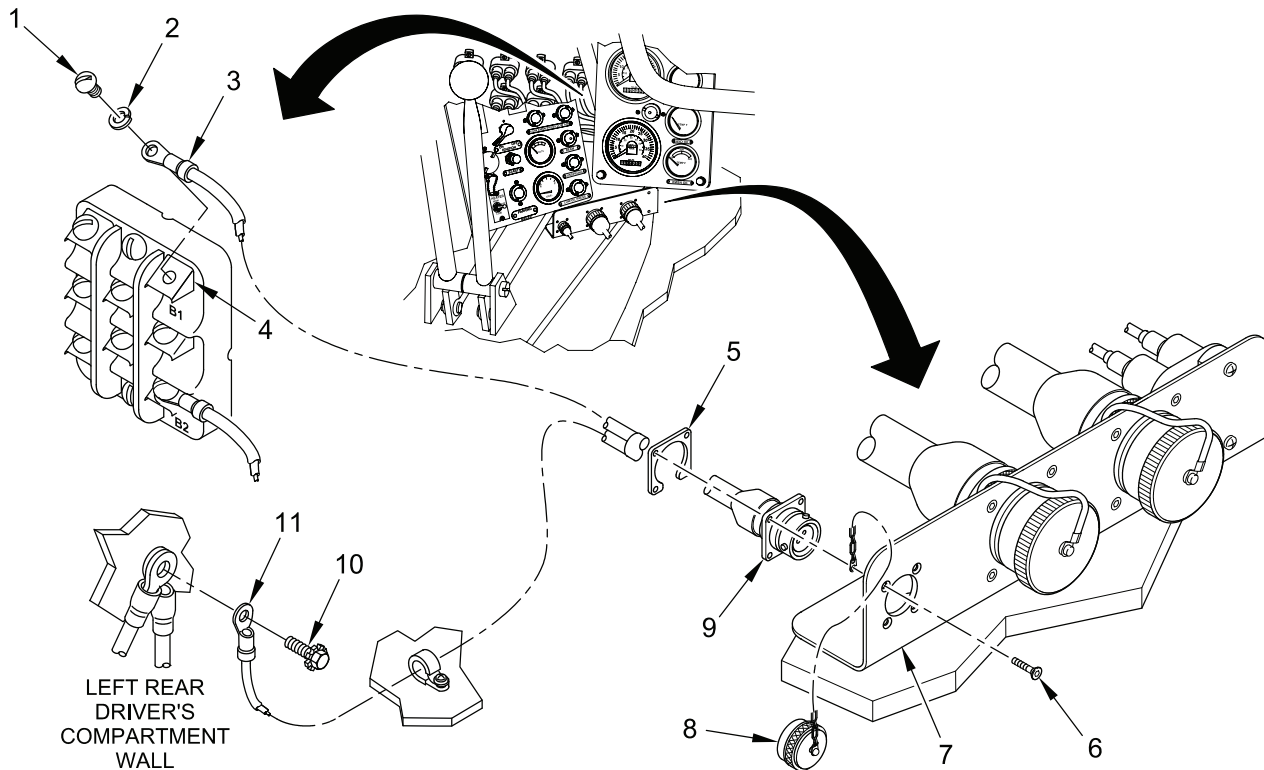

Figure 1. Removing Wiring Harness W1
1. Remove screw (Figure 1, item 1), lockwasher (Figure 1, item 2), and wiring harness W1 lead 1070 (Figure 1, item 3) from parking brake relay (Figure 1, item 4) terminal B1.
2. Remove bolt (Figure 1, item 10), from the compartment wall above the NBC filter and remove wiring harness lead 1069 (Figure 1, item 11).
3. Remove dust cap (Figure 1, item 8), four screws (Figure 1, item 6), nutplate (Figure 1, item 5) and wiring harness W1 connector J1 (Figure 1, item 9) from HDC disconnect bracket (Figure 1, item 7).
4. Pull wiring harness W1 leads 1070 (Figure 1, item 3) and 1069 (Figure 1, item 11) through wire clamps and remove wiring harness W1 from vehicle.